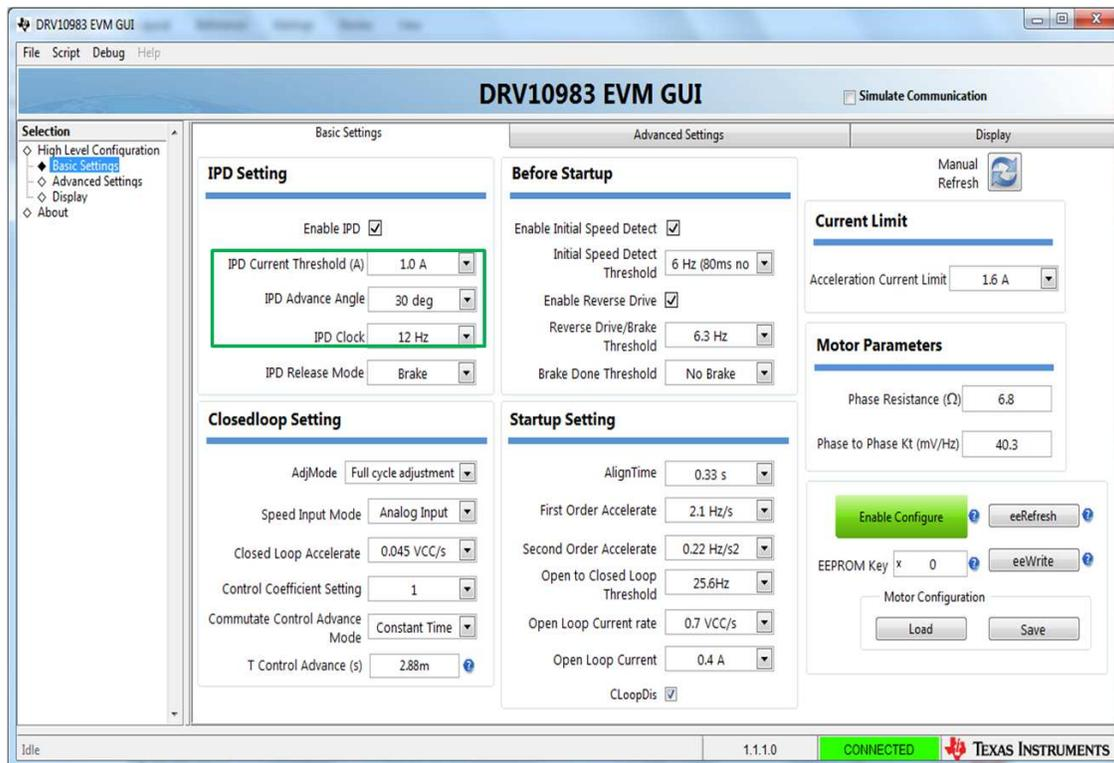

Figure 9. DRV10983x/75 EVM GUI Screenshot
Step 5. Set 'IPD Advance Angle' to 30 degrees, 'IPD clock' to 12 Hz, and 'IPD Release Mode' to brake (see Figure 9).